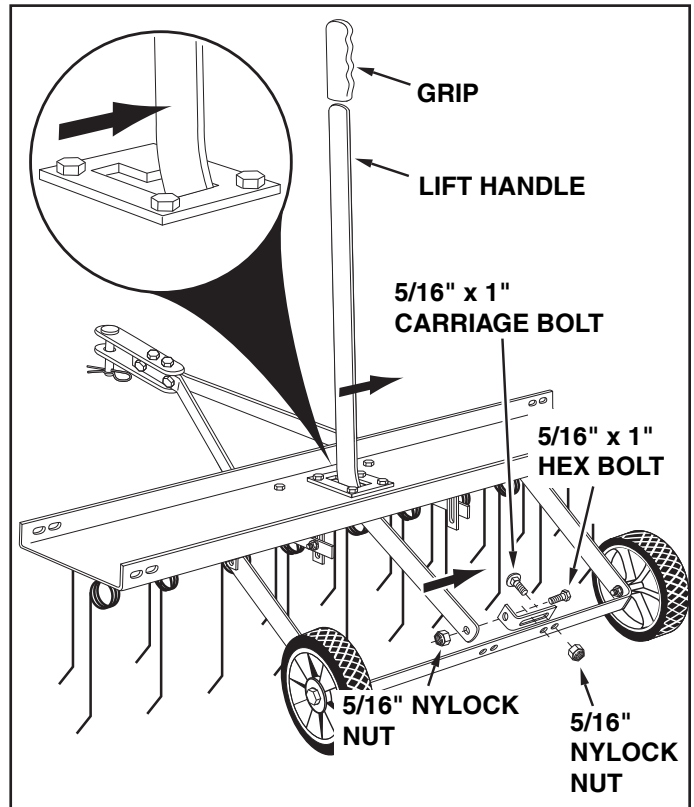

FIGURE 6
- Assemble a hitch arm mount bracket to the axle bracket using two 5/16" x 1" carriage bolts (E), and 5/16" nylock nuts (I). **Do not tighten yet**. See figure 6.
- Insert the lift handle down through the tine shield. Attach it to the just assembled hitch arm mount bracket using a 5/16" x 1" hex bolt (D) and a 5/16" nylock nut (I). **Tighten**. See figure 6.
- Position the hitch arm mount bracket so that there is side tension on the lift handle when it is locked in the up position. **Tighten** the nuts. See figure 6.
- Assemble the grip (K) onto the end of the lift handle. See figure 6.